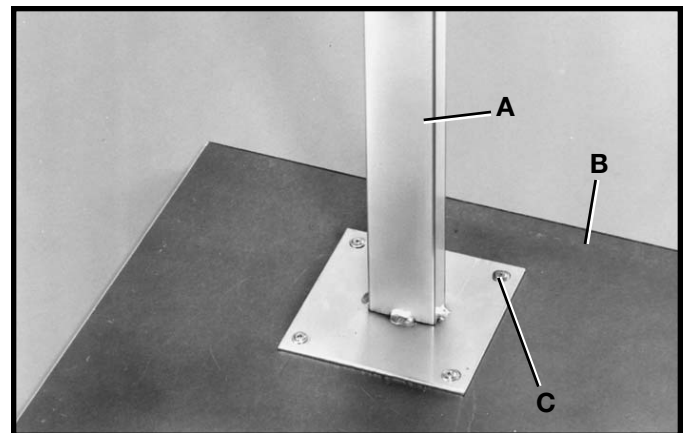

Fig. 49
2. Assemble table leg (A) Fig. 49, to table board (B) using four #8 x 7/8" long wood screws (C) as shown. Assemble remaining table leg to the table in the same manner. **CAUTION: DO NOT OVER-TIGHTEN LEG MOUNTING SCREWS.** Over-tightening screws in particle board may cause them to strip.